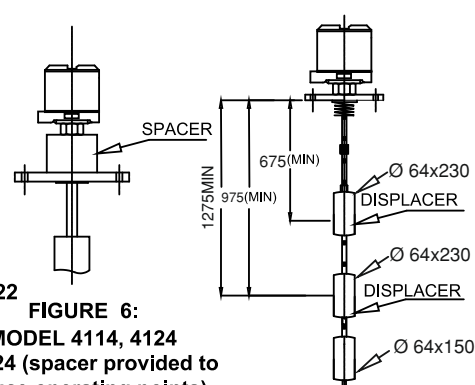

FIGURE 6:
- 4114 : Narrow Differential (Fixed) type using **One** switch assembly and **One** Displacer. (Min. operating point of 100 mm. (Refer Fig. 6)
- 4124 : Wide Differential (Adjustable) type using **One** Switch Assembly and **Two** Displacers. (With minimum upper & lower operating points of 100mm & 425mm respectively. (Refer Fig. 6)
- 4224 : Narrow Differential (Fixed) type using **Two** Switch Assemblies and **Two** Displacers. Each switch is actuated at different level and calibrated with Narrow Differential Band (With minimum upper & lower operating point of 100 mm and 400 mm respectively. (Refer Fig. 6)